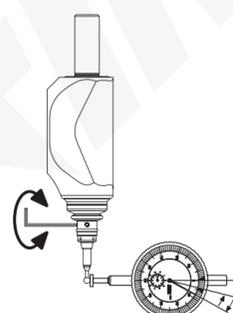

Fig. 5
---Turn spindle with 3D tester by another 180°, and now the dial gage shows the deviation of the Y-axis. (as shown in Figure 5, the indicator reading is 0.08mm)